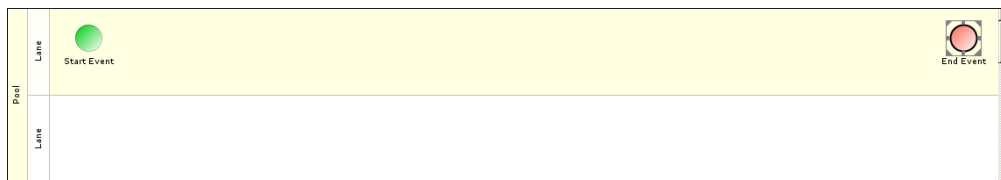

Figure 7: New Swim Lane Added
1. In the Process Modeler applet, click **Lane** () button in the Palette and drag it to the graph canvas. A new lane gets added to the Pool (see Figure 7).